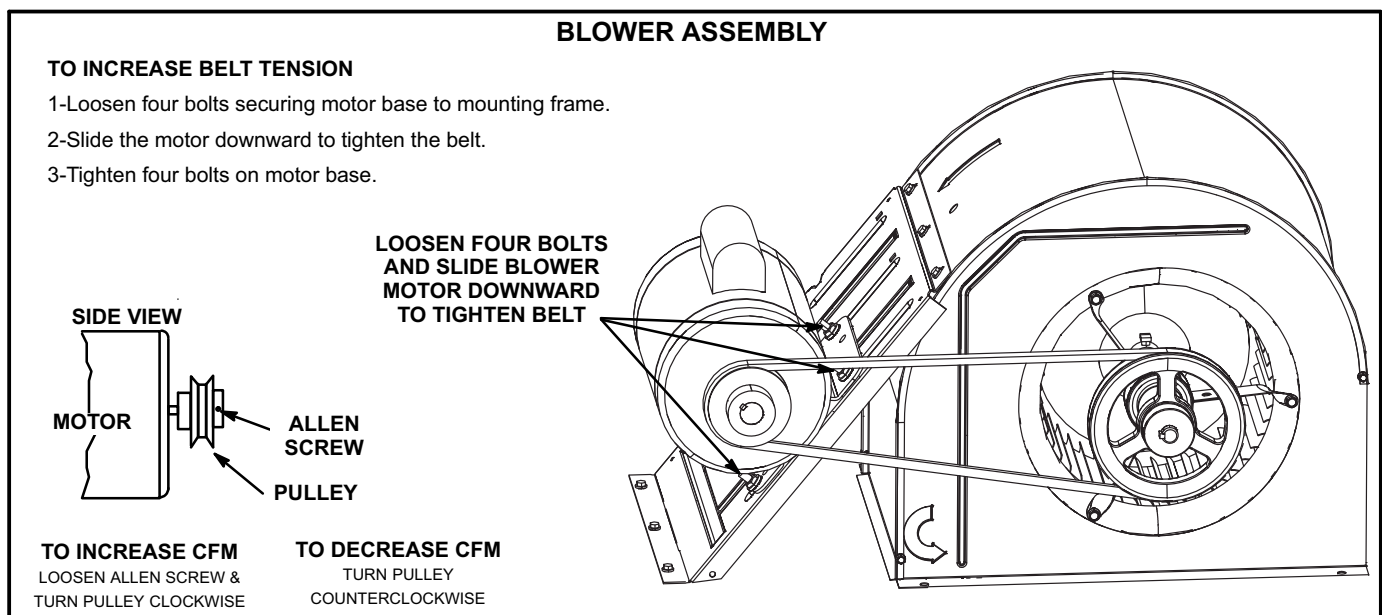

FIGURE 14
- 4- The blower RPM can be adjusted at the motor pulley. Loosen Allen screw and turn adjustable pulley clockwise to increase CFM. Turn counterclockwise to decrease CFM. See figure 14. Do not exceed minimum and maximum number of pulley turns as shown in table 4.
- 1- Loosen four bolts securing motor base to mounting frame. See figure 14.